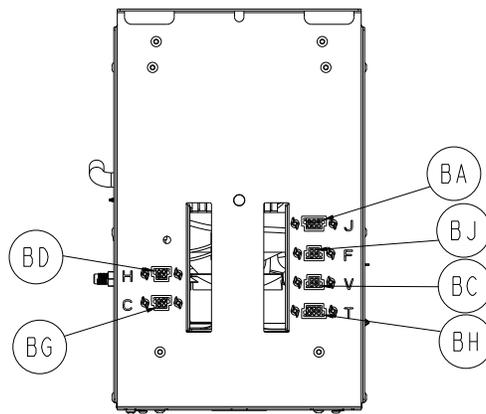

Figure 23 – Heater connector
18. Using wire cutters, remove the heater connector (BD) from the top bracket (AX) (Figure 23).